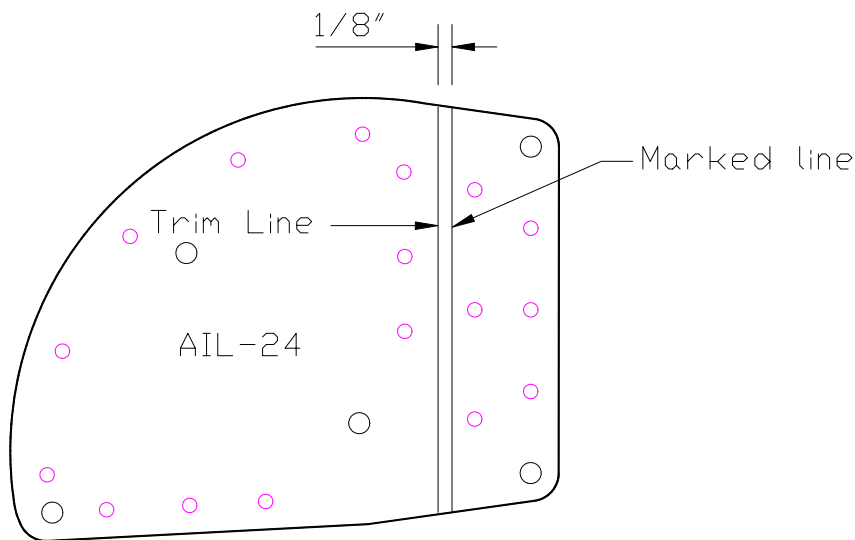

Figure 7.1.2
- 3) Measure inboard 1/8" from the marked line on the End Plate (AIL-24) and draw another line. Trim the part. Radius corners and debur. Figure 7.1.2.